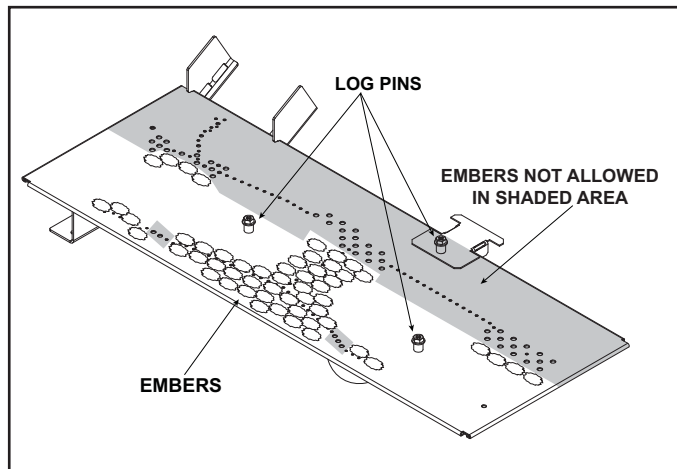

Figure 2. Log Pin and Glowing Ember Locations
- Locate the glowing embers and install them as shown in Figure 2. Do not install any glowing embers on the back row of burner ports. Glowing Embers can be placed directly over burner ports; however, for optimal front flame height, place glowing embers around the burner port clusters indicated by the “arrows” shown in Figure 8.